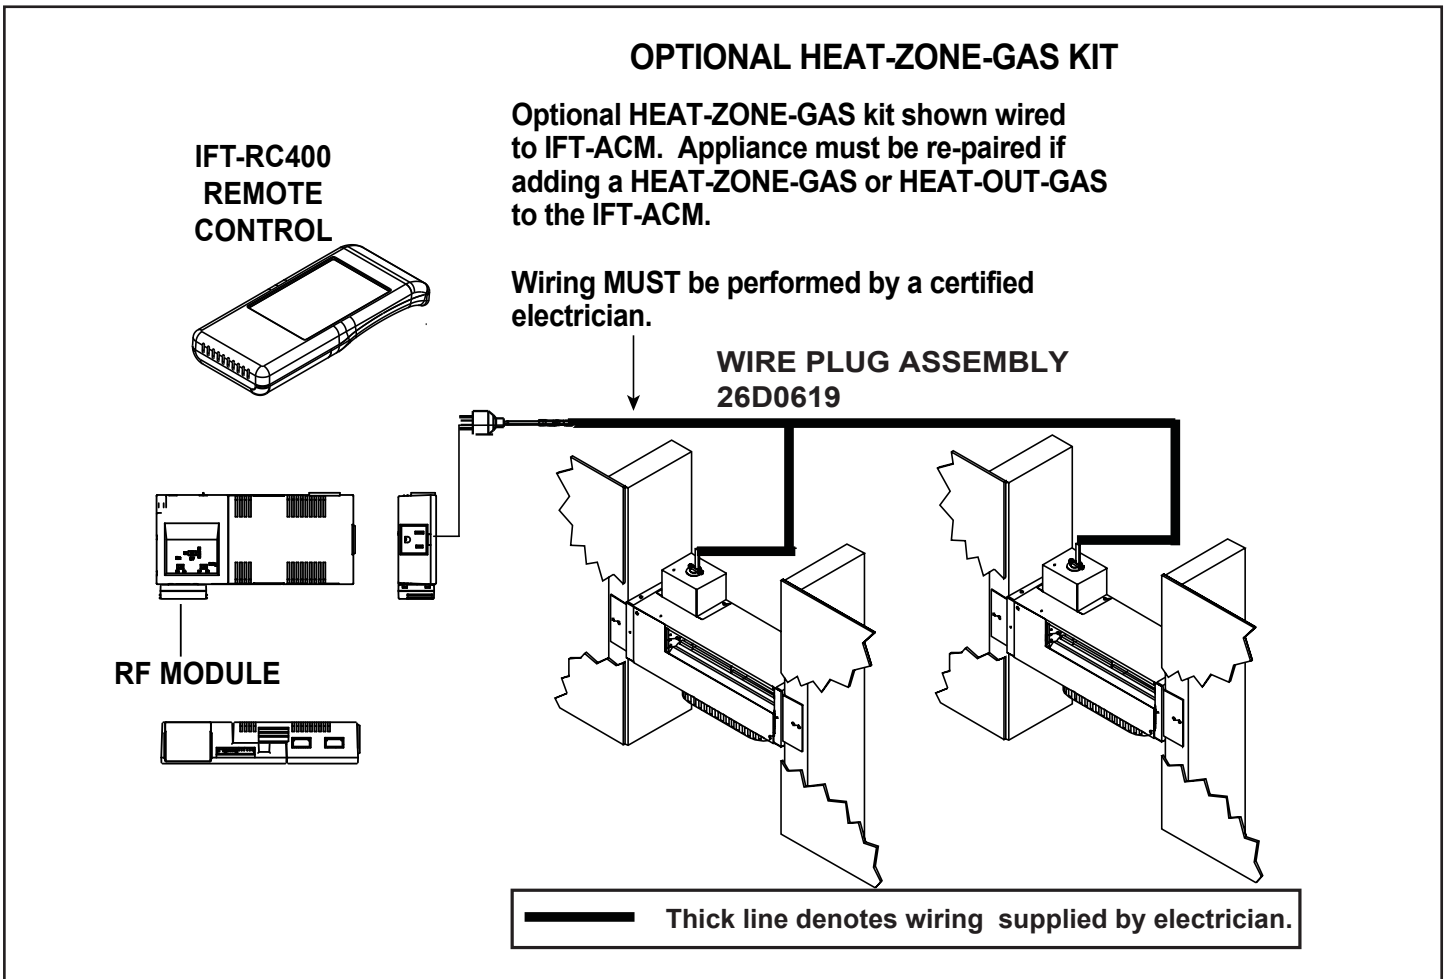

Figure 8 IntelliFire Touch Controls
14. Using a standard 120 volt plug-in, wire the ends of the wires from the blower junction box (or junction boxes if two Heat-Zone-Gas kits will be installed) to the plug-in inside the appliance. See Figure 8.